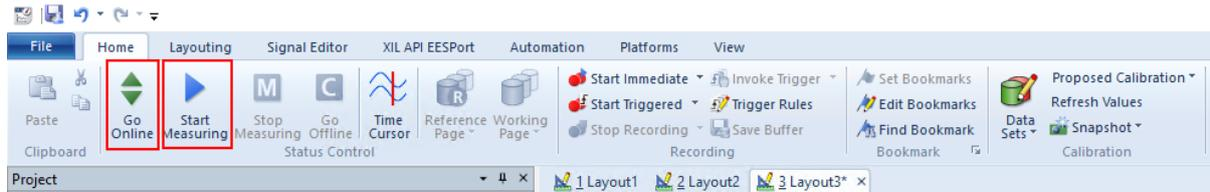
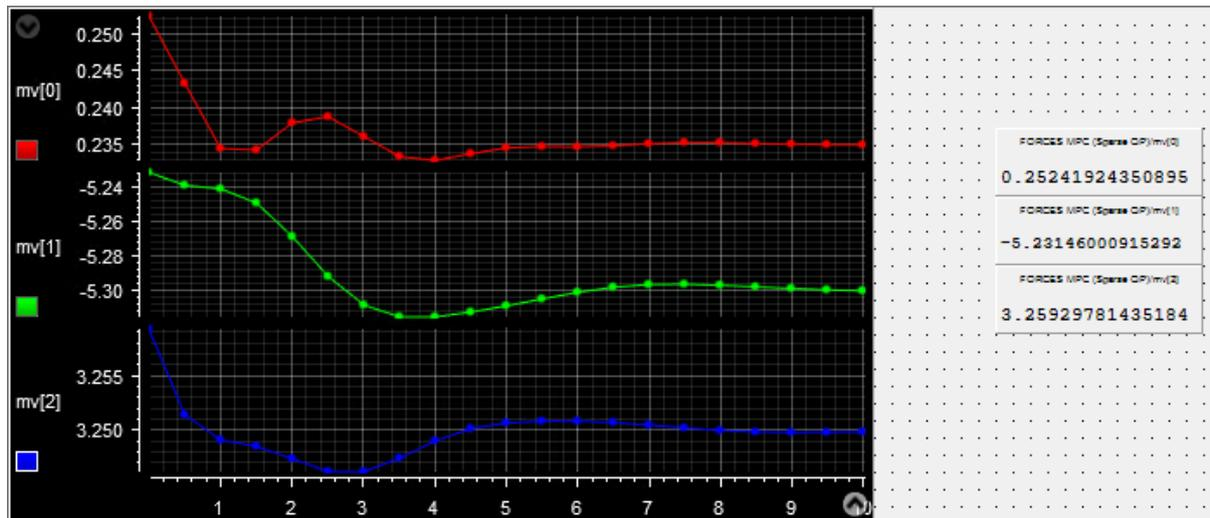

Figure 6.21: Buttons Go Online and Start Measuring to receive execution results
Figure 6.22: Plots and results from experiment on dSPACE MicroAutoBox II
- 16) Select `Go Online and Start Measuring` to see the results. (see Figure 6.21 and Figure 6.22).